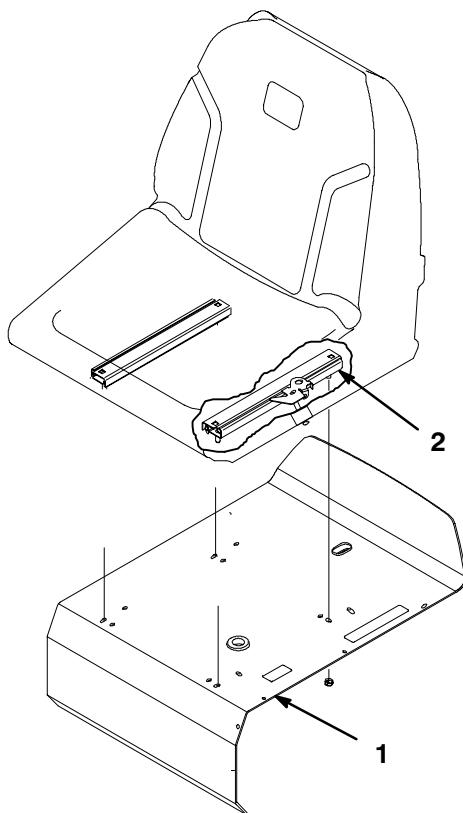

Figure 2
3. Secure the seat slides to the seat support with (4) 5/16-18 locknuts supplied in loose parts (Fig. 2).